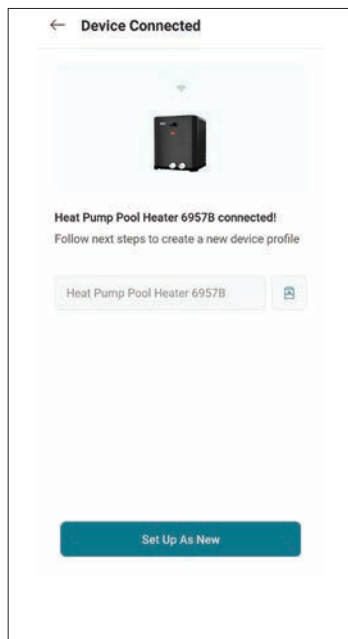

Figure 102. Name Your Unit
- 10. Your device is now connected to Wi-Fi. You can change the name of your device here. See Figure 102.